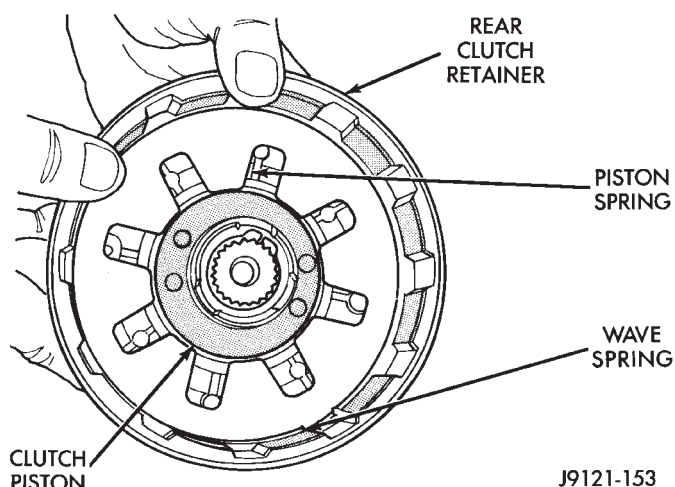

Fig. 72 Piston And Wave Spring Position
(8) Install piston spring in retainer and on top of piston (Fig. 72). Concave side of spring faces downward (toward piston).
(9) Install wave spring in retainer (Fig. 72). Be sure spring is completely seated in retainer groove.